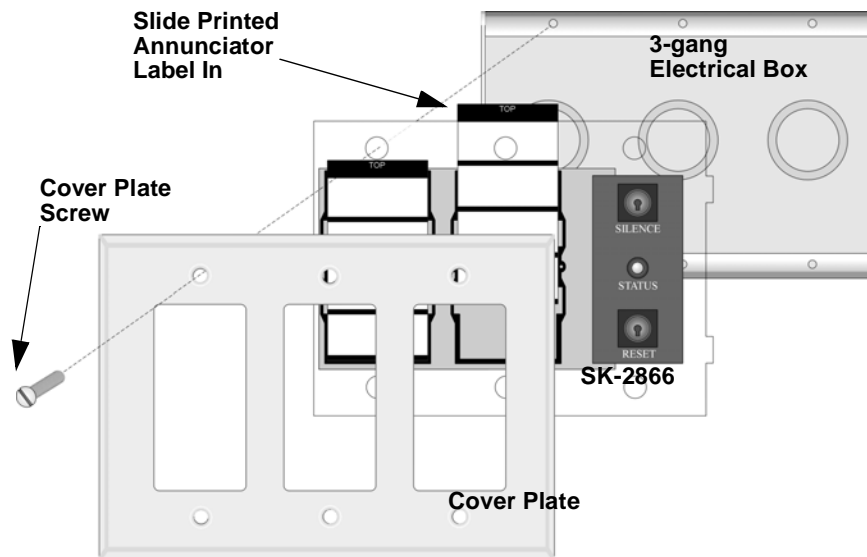

Figure 4-10 Mounting the SK-2866
3. Place the SK-2866 into the 3-gang electrical switch box. See Figure 4-10.
4. Place the cover plate over the top of the SK-2866 and align the holes. See Figure 4-10.